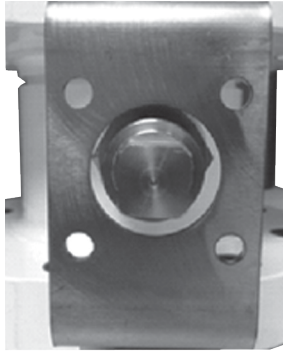

Figure 7. Coupler Installation for Size 3-inch Single and Double Flange Rotary Actuators
3. With the coupler and stub pinned together and the valve cam touching the valve stem turn the coupling counter clockwise 1/8 of a turn, or until the flat of the coupling is square with the valve (see Figure 7).